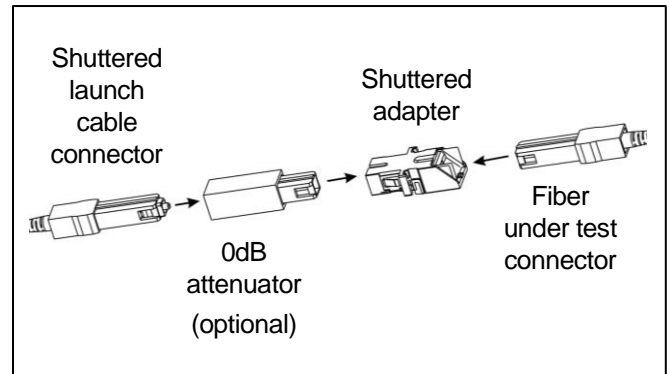

Figure 3. Connection to fiber under test
- ④ When the fiber under test provides a female SC/APC connector port, locate the launch cable's DUT connector on the 48-inch pigtail and connect it to the female SC/APC connector.
- ⑤ When the fiber under test provides a male SC/APC connector, open the shutter door of the launch cable's adapter and insert the male connector from the fiber under test. Insert the launch cable's DUT connector into the open end of the adapter. If using the 0dB attenuator, place it between the DUT connector and the adapter. See Figure 3.